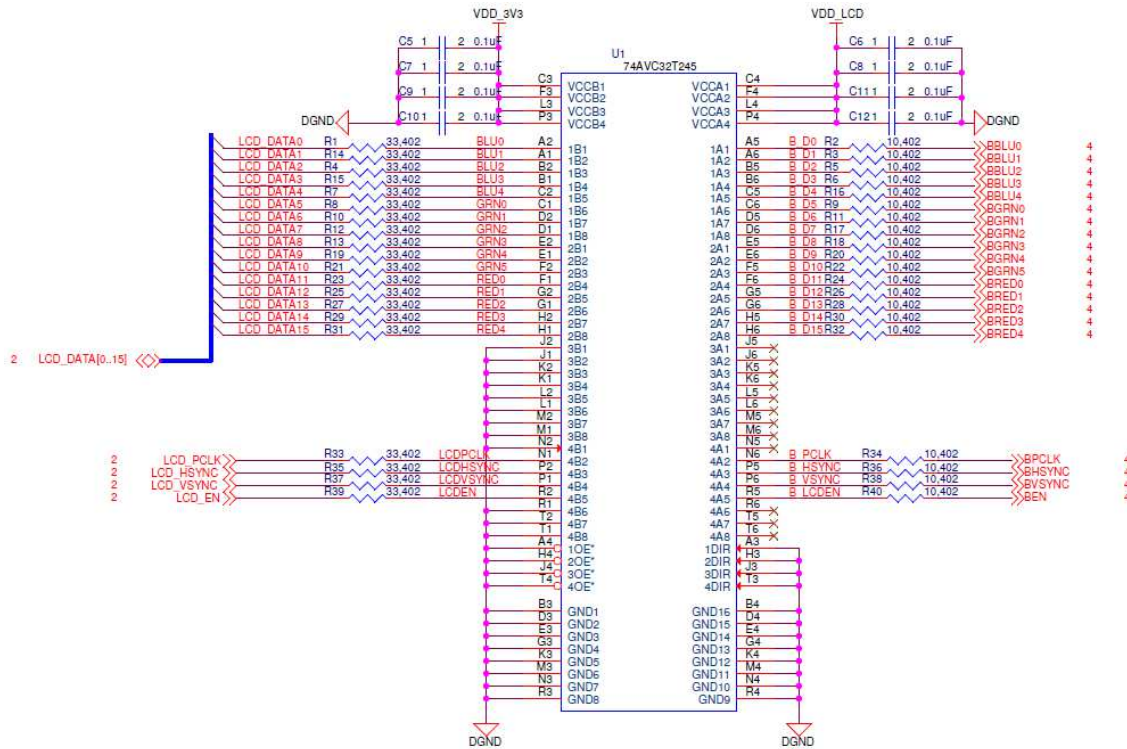

Figure 6. LCD Signals buffered through U1
The LCD signals are buffered through U1 (74AVC32T245), which is a 32-bit dual-supply bus transceiver. 74AVC32T245 features two ports, A and B. Each port tracks a separate power-supply rail. This allows for universal low-voltage translation. The output-enable (OE) input specifies whether the buses are isolated. The direction-control input, on the other hand, determines the data transmission direction. On the BeagleBone LCD7 Cape, no voltage translation required since its two power rails are both 3.3V. Both the direction-control and output-enable inputs are set low, so the data are transmitted from B to A before going to LCD connector P2. **Figure 6** shows the LCD signals are buffered through U1.